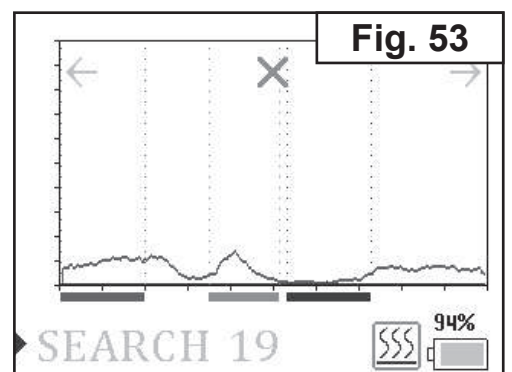

Fig. 53
13. Tap  or  for ionogram swithing (Fig. 53).